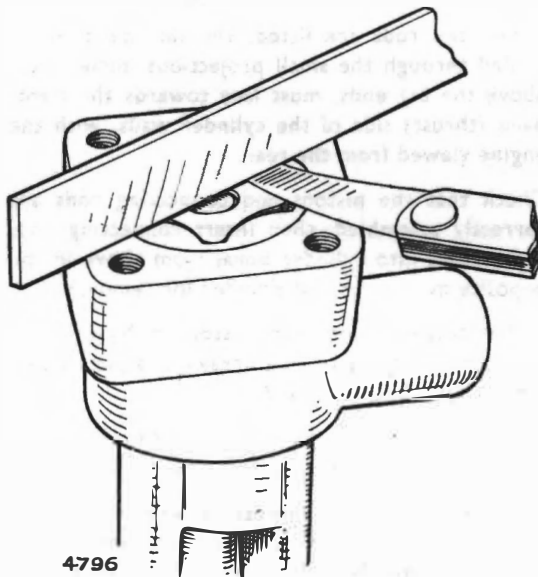

Fig. 37. Checking pump rotor end clearance
1. End clearance between the inner and outer rotor ring and pump body. The maximum and minimum clearances are  $\cdot003$ " ( $\cdot076$  mm.) and  $\cdot001$ " ( $\cdot025$  mm.) when measured with a feeler and straight edge as illustrated in Fig. 37.